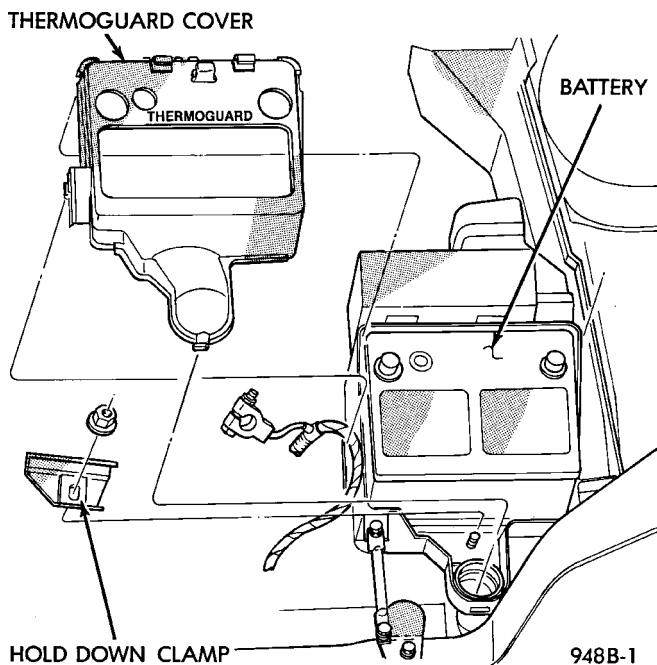

Fig. 18 Battery Thermoguard
- (3) Remove battery thermoguard cover (Fig. 18).